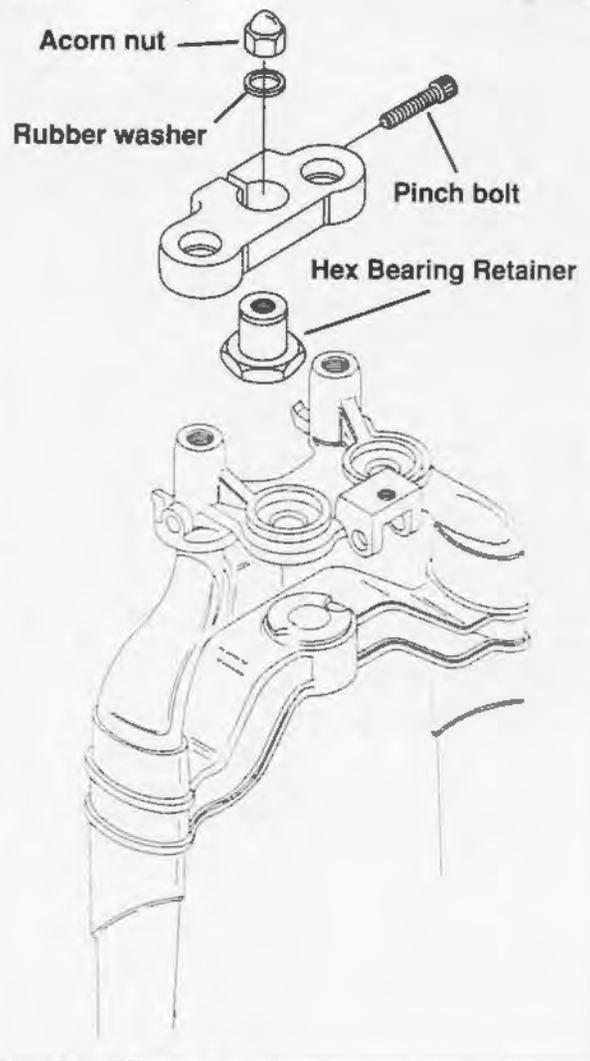

Figure 2-77. Handlebar Risers Assembly
2. See Figure 2-77. Remove the acorn nut and rubber washer. Loosen but do not remove the upper triple clamp pinch bolt.
8. See Figure 2-77. Tighten the pinch bolt to 25-30 ft-lbs (34-41 Nm).
4. See Figure 2-77. Remove the acorn nut and washer. Loosen but do not remove the upper triple clamp pinch bolt.